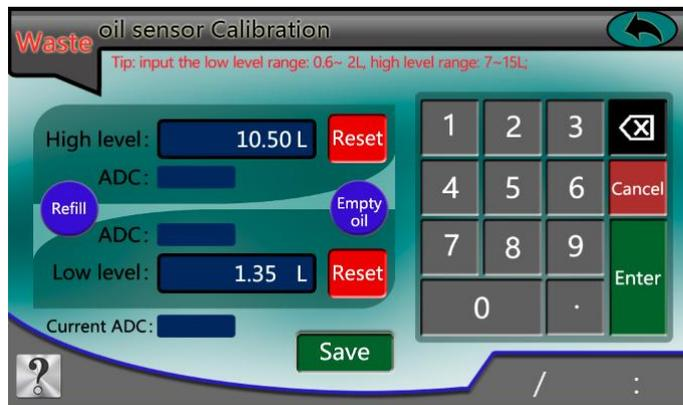

Fig. 45
12.7 Enter the oil volume 1.35L into the edit box of 'Low level'. Wait until the final ADC number shows and press 'Enter'. If a mistake is made, tap 'Reset' and enter the correct number (Fig. 45).
12.8 Now we confirmed the value of high liquid level and low liquid level, press 'Save' and finish calibration (Fig. 45).